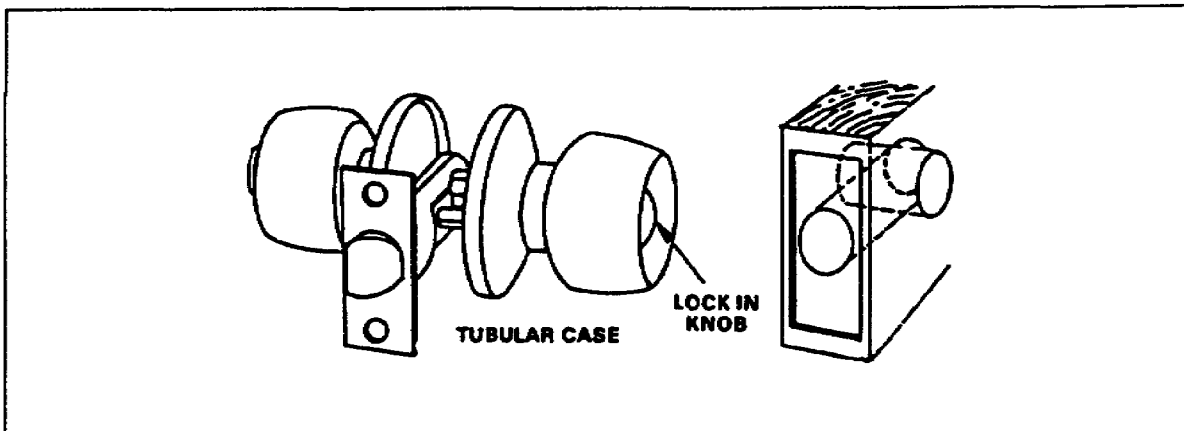

Figure 1-58. Tubular lock
a. Tubular Locks. Tubular locks have all the advantages of mortise locks, but are much easier to install because they only need bored holes. They are used mainly for interior doors for bedrooms, bathrooms, passages, and closets. They are available with a key tumbler lock in the knob on the outside of the door or with a turn button or push button on the inside. Figure 1-58 shows a tubular lock set.